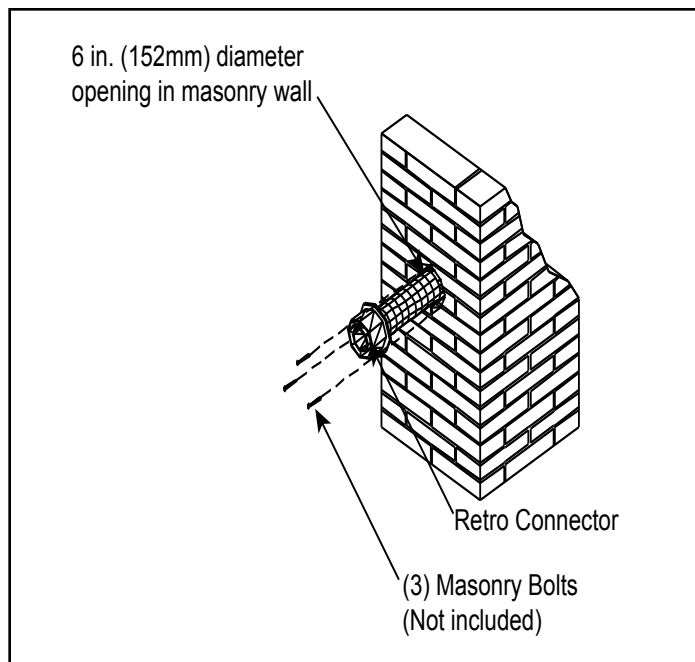

Figure 4.27
9. Attach the flex to the retro connector. Use three sheet metal screws to attach the flex liner to the connector. Mount the retro connector to the masonry wall using masonry bolts. See Figure 4.27. Redrill larger holes on connector as needed. Be careful to ensure that the connector is centered in the opening and the mounting holes line up with the masonry wall.